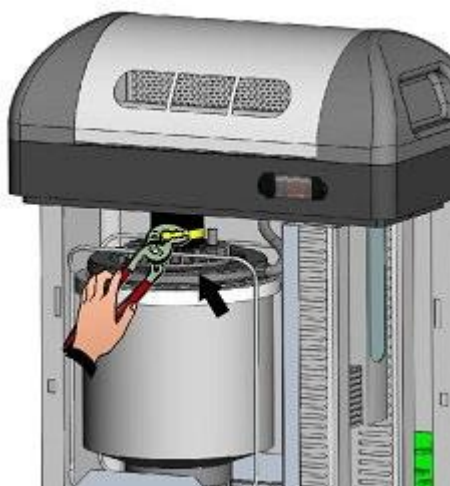

Fig. 5
6. Connect the steam hose to the humidifier flange (Fig. 5).